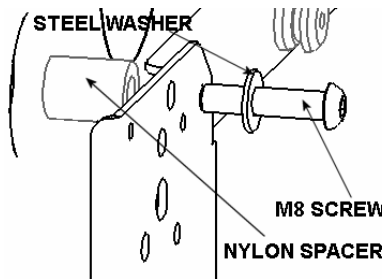
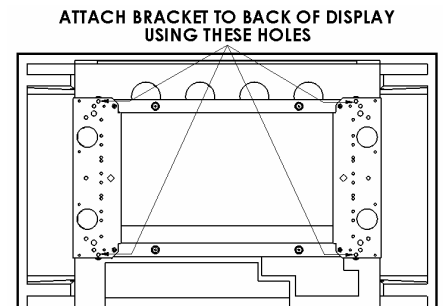

Figure 6
Figure 7
3. Place Nylon spacers over mounting holes on back of screen. Attach mounting brackets to display using M8 screws with steel washers (see Figures 6 & Figure 7).